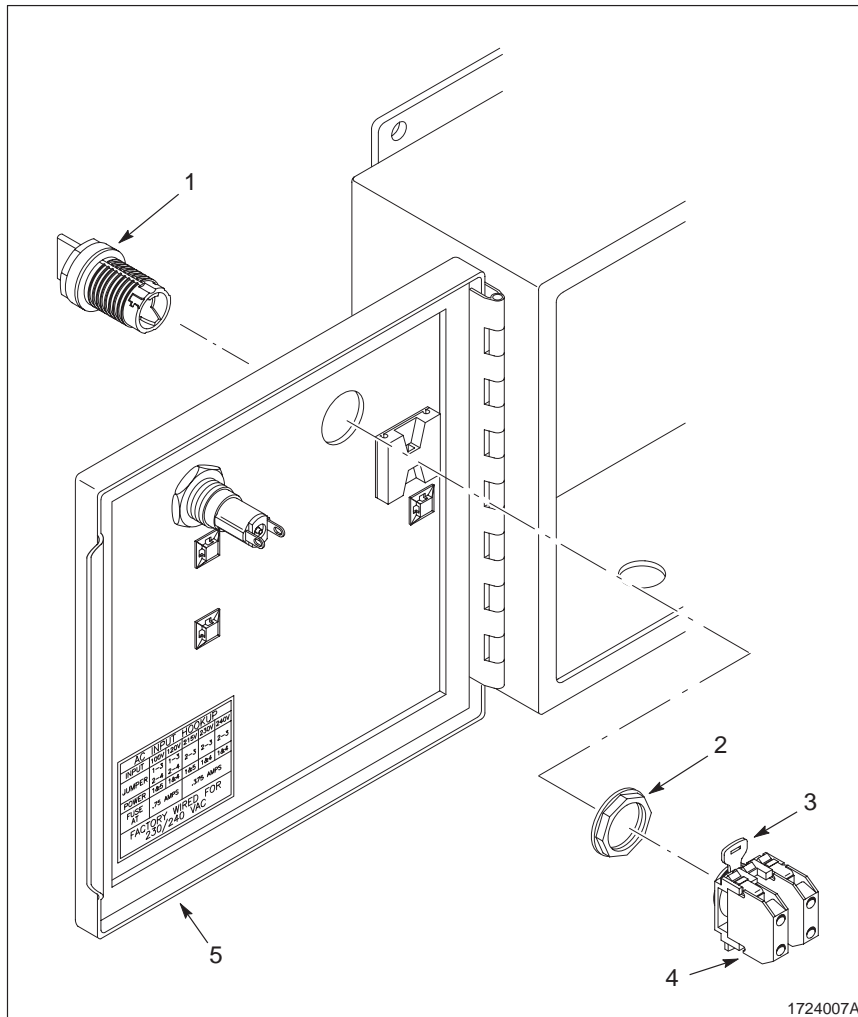

Fig. 10 Switch replacement
1. See Figure 10. Open the enclosure door (5).
2. Disconnect these wires from switch S1 (4):